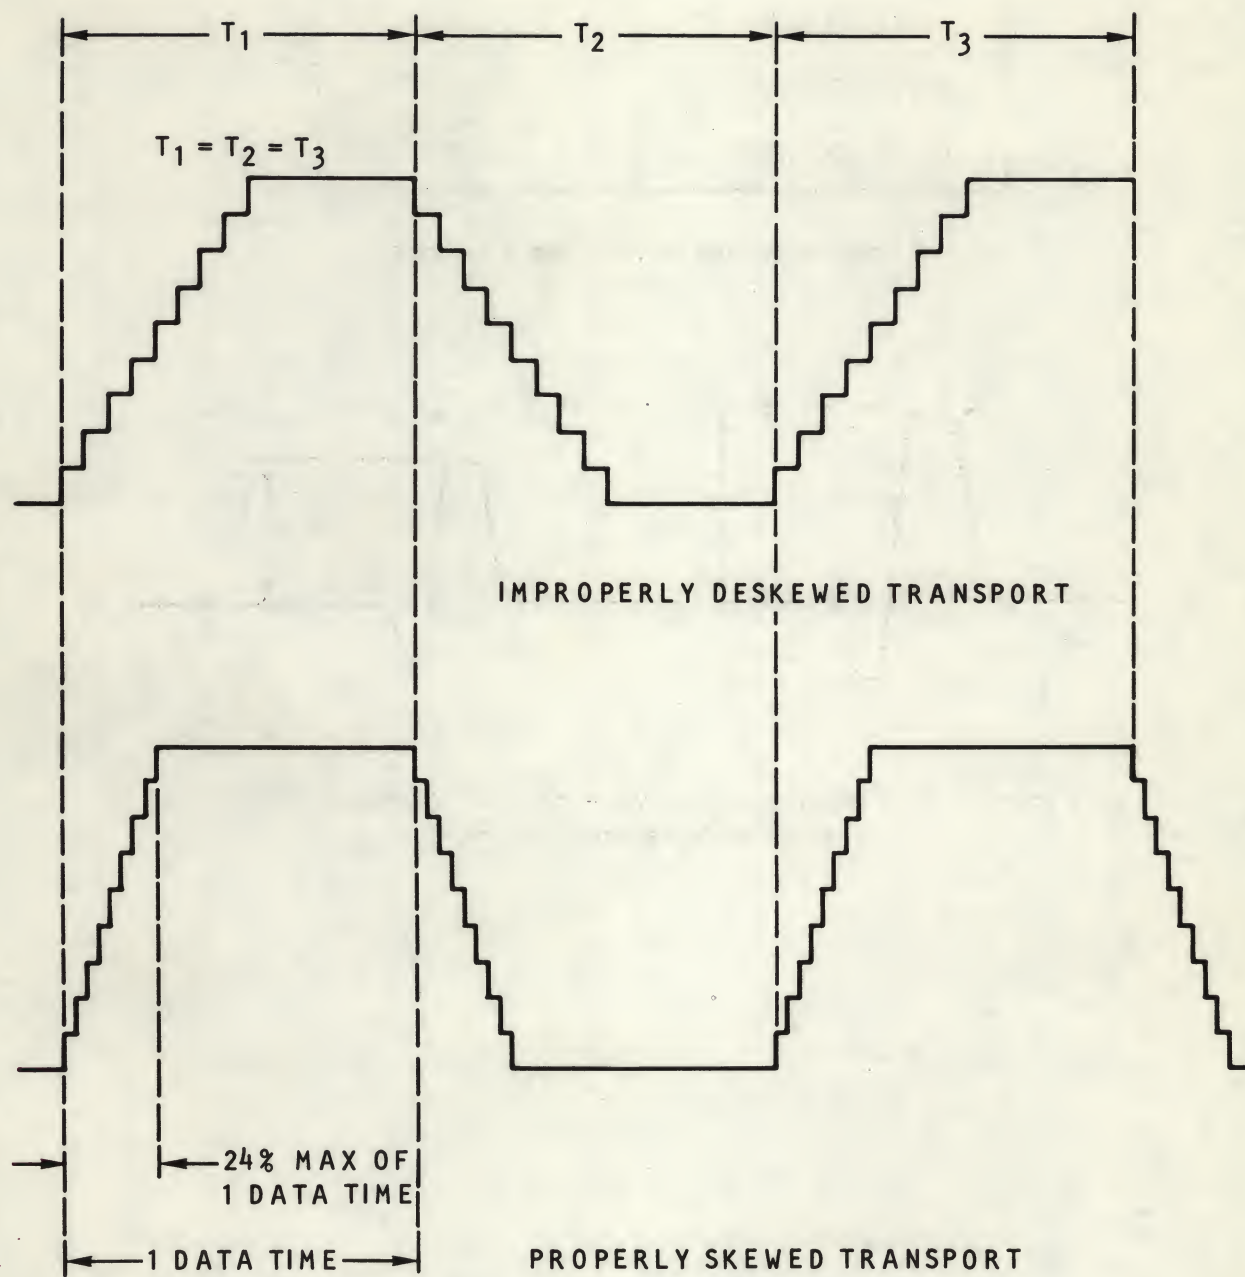

Figure 4-33. Skew Adjustment Waveform
- g. Adjust azimuth screw (1, Figure 4-11) so that outputs of all tracks, as monitored at test point on skew monitor, fall within 24% or less of the byte-to-byte period. (See Figure 4-33)